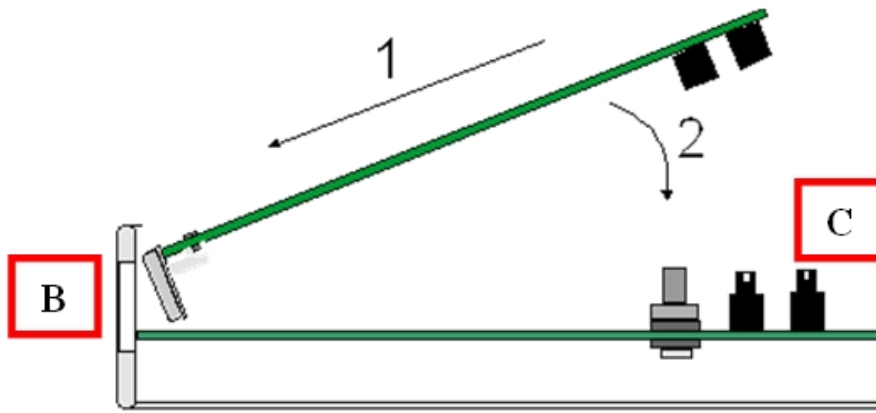
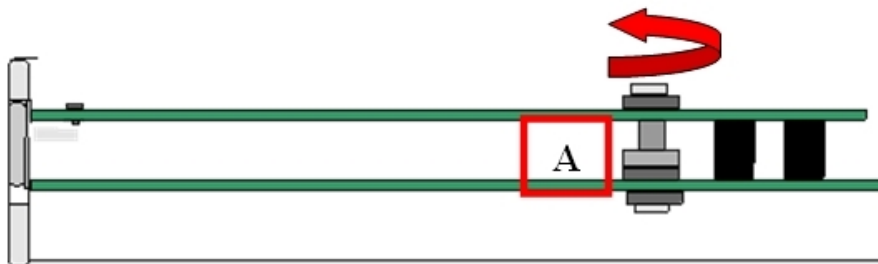

Fig. 11: Inserting the expansion card
Fig. 12: Attaching the expansion card
- Please see Figure 11 and Figure 12.
- Place the PMC expansion card in the corresponding slot so that this firstly adjusts to the space on the device panel and subsequently to the two PMC connections (Steps 1 and 2 in Figure 11).